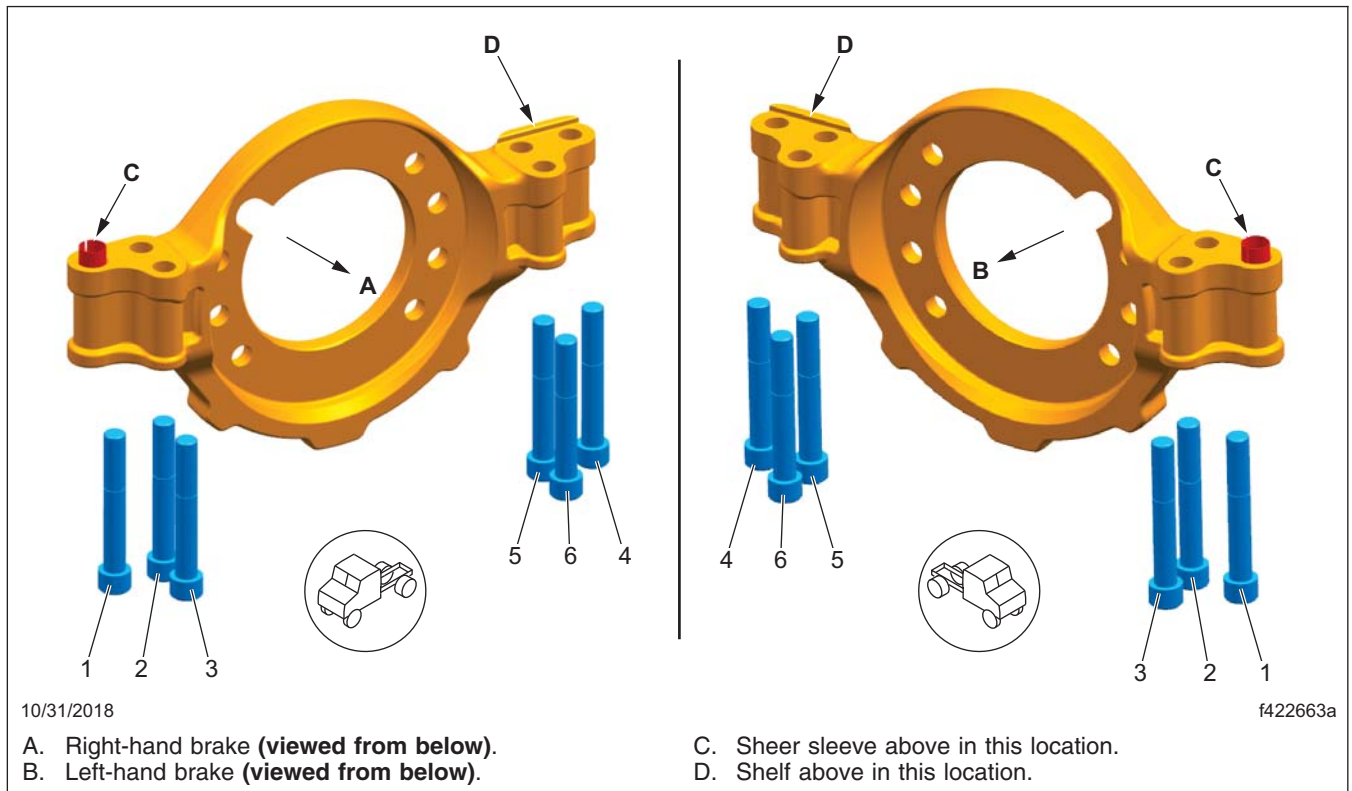

Fig. 6, Bendix Radial Mounted Caliper Tightening Pattern (viewed from below)
- Set a torque wrench to 200 lbf·ft (271 N·m) and tighten the caliper mounting bolts following the tightening pattern shown in Fig. 6. If they do not turn, no further work is needed. If they turn, take the vehicle to an authorized Freightliner dealer to have all of the caliper bolts on that wheel end replaced.